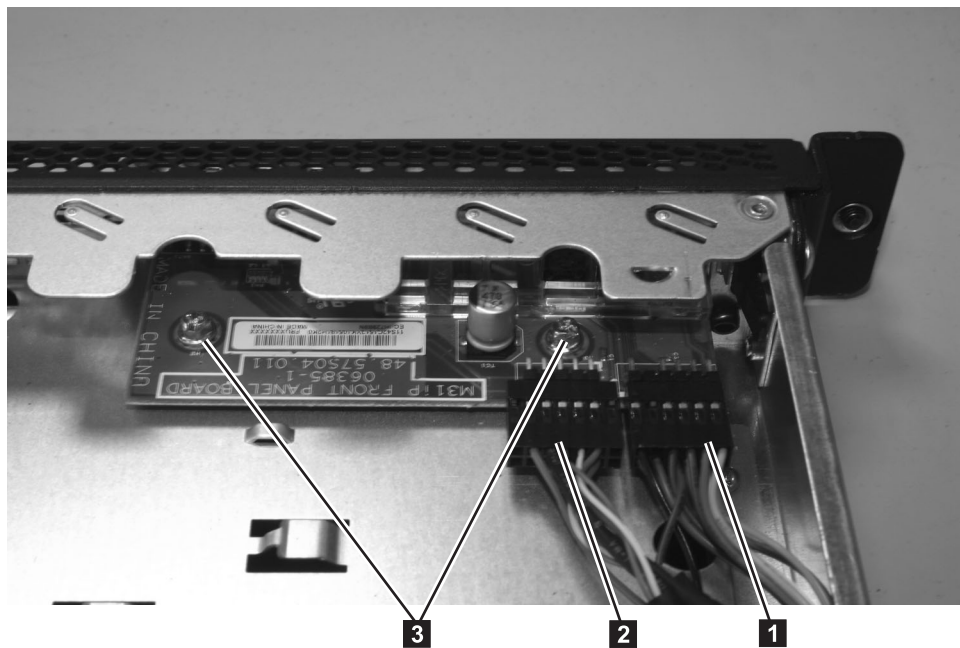

Figure 219. SAN Volume Controller 2145-8A4 operator-information panel
1. Connect the light panel cable **1** and the front USB cable **2**, shown in Figure 219, to the operator-information panel board.